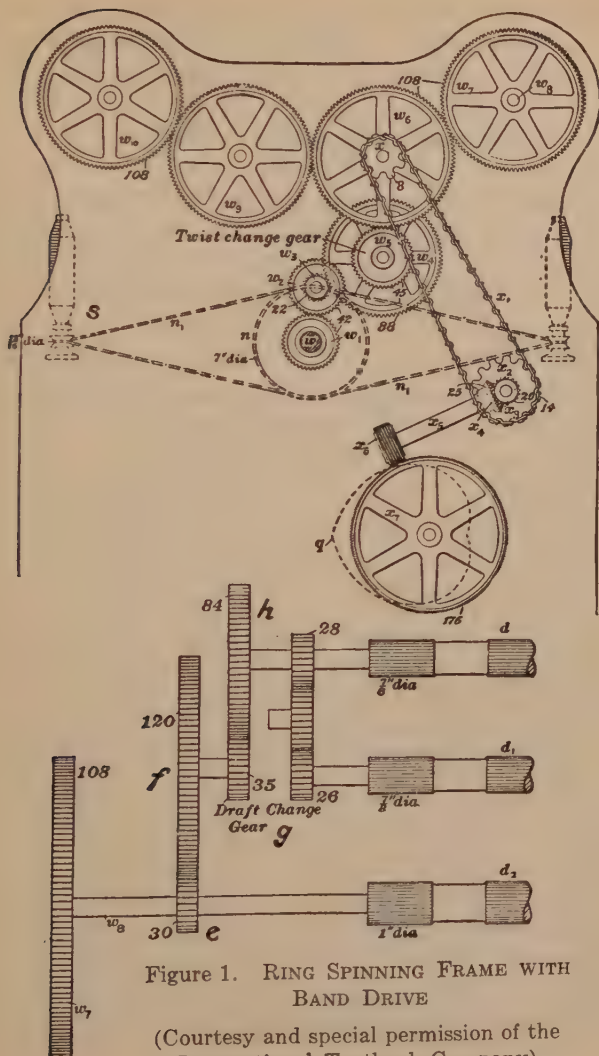

Figure 1. RING SPINNING FRAME WITH
NOTE: Some manufacturers express the lay constants of their fly frames in terms of the twists per inch. The lay constant of the frame in figure 1 expressed in terms of twists per inch would be  $\frac{1.2}{9.3} \times$  the lay constant in problem 40.
The upper part of figure 1 represents an end view of a ring spinning frame and the lower part represents a top view of the drawing rolls.
EXAMPLE: *Suppose that the surface speed of the front roll,  $d_2$ , in figure 1 is 600 inches per minute; that the whirl,  $s$ , makes 8000 R.P.M. and that the bobbin is 3'' in circumference. How many twists per inch are inserted in the yarn?*
Letting *tpi* stand for twists per inch, S.S. for surface speed and referring to figure 1 the above equation becomes:
Referring to figure 1 and from what we have learned about R.P.M. and surface speed we know that: R.P.M. of  $d_2 \times \text{circum. of } d_2 = \text{S.S. of } d_2$ . Hence:
EXAMPLE: Find the twist change gear required on the frame in figure 1 to insert 14 twists per inch. Use the calculated ratio of speeds from problem 1.
11. Find the twist change gear required on the band-driven frame in figure 1 to insert 17.5 twists per inch. Refer to problem 1 for the ratio.
12. Find the twist change gear required in the band-driven frame in figure 1 to insert 21 twists per inch.
13. In the band-driven frame in figure 1 find the twist change gear required to insert 19 twists per inch if:
14. If the frame in figure 1 remains the same as in problem 13, what size twist change gear will be required to insert 23.75 twists per inch?
The use of *twist constants* greatly shortens the labor in figuring twist change gears and twists per inch. From equation (8) and using the figures in figure 1 and the proper speed ratio from problem 1 we have:
Hence, as long as the ratio of spindle to cylinder speed, the front roll and the rest of the gears are unchanged, the product of the twist change gear multiplied by the twists per inch remains constant, regardless of the size of the change gear and the number of twists per inch. This product is called the *twist constant*. Hence, the twist constant of the frame shown in figure 1 is 979.75.
EXAMPLE: Find the twist change gear required on the band-driven frame in figure 1 to insert 14 twists per inch.
15. Find the twist change gear required on the band-driven frame in figure 1 to insert  $17\frac{1}{2}$  twists per inch.